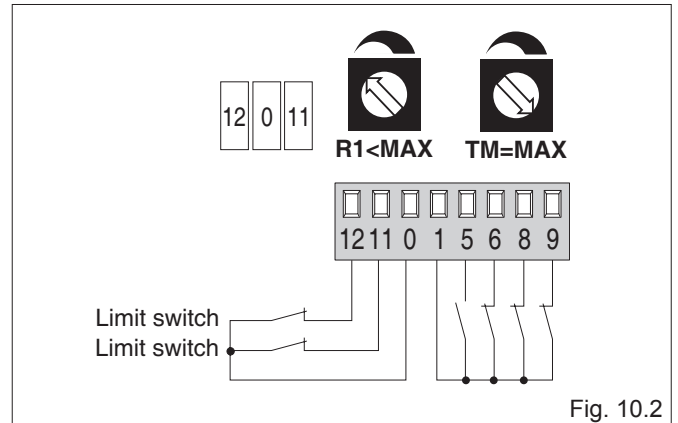

Fig. 10.2
- (Fig. 10.2) The leaf stops on limit switches and reverses on obstacles.